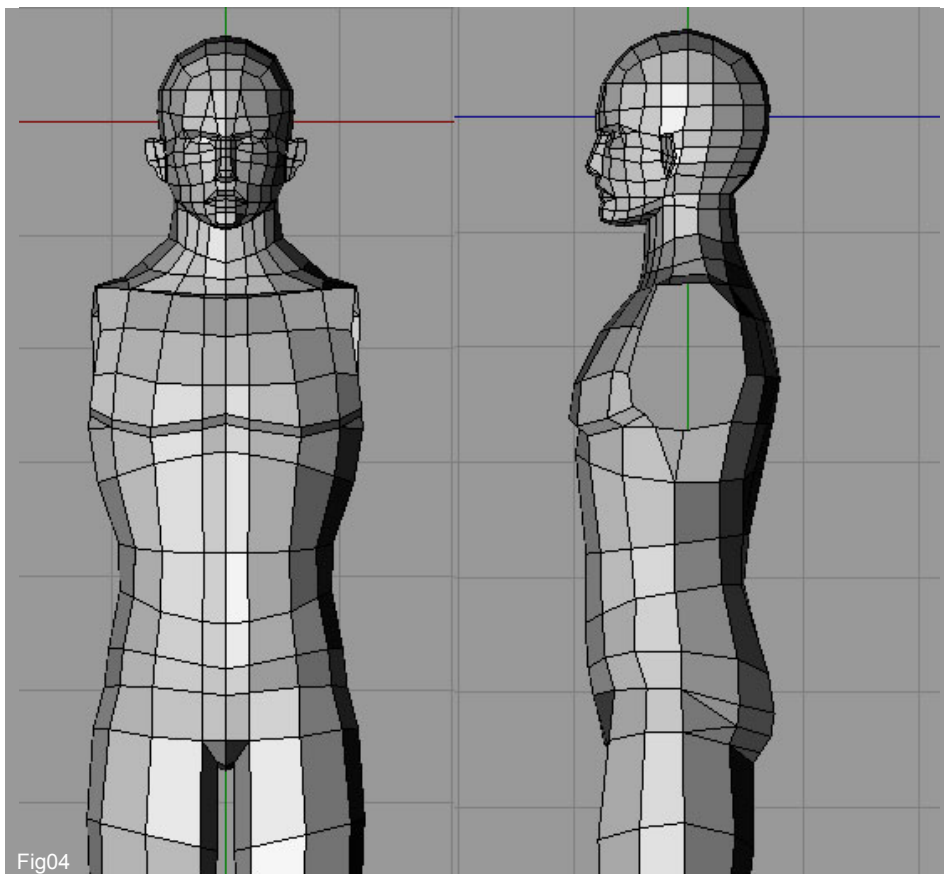

Fig04
4. Using this same technique extend the leg downwards to create the upper part of the leg, as shown in Fig04. Remember to tweak the positions of the verts each time you extrude the edges.